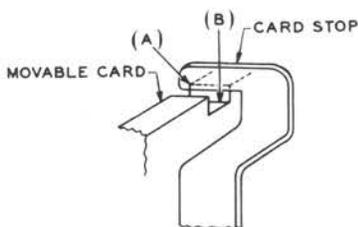

Fig. 29—Card Stop Position—Clutch Drive
(a) With the moving card play taken up in a downward direction, the bottom edge of the card stop shall lie below the top surface of the movable card [Fig. 29, (A)] by
(b) With the moving card play taken up in an upward direction [Fig. 29, (A)], the card stop shall not rub on the card during card travel. Gauge by eye and feel. To check the requirement, manually operate the intermittent clutch with a finger applied to the mounting clevis of the antioverthrow pawl.